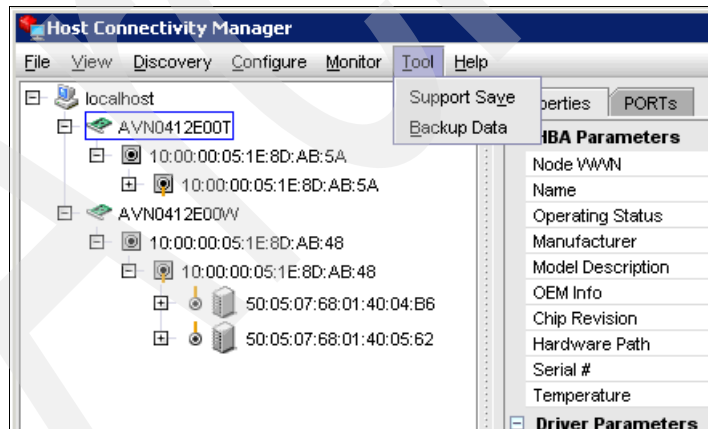

Figure 7-74 HCM Tool menu
- ▶ Perform data collection (Support Save) and HBA settings backup (Figure 7-74)